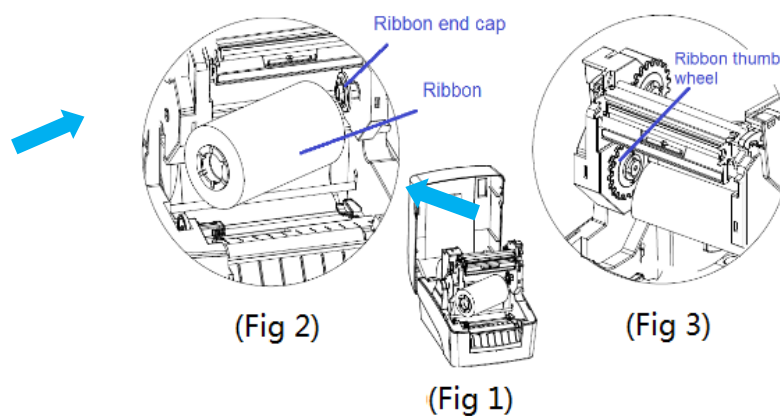

Figure 2.3.1
A) For the ribbon shaft with an inner diameter 12.7mm (1/2 inch), the operation method is as shown in Figure 2.3.1 (please pay attention to the installation direction). Firstly, rotate the ribbon holder to the position shown in Fig.1, then insert the ribbon into the ribbon end cap in the direction shown in Fig.2 and insert the other end of ribbon into the ribbon thumb wheel, and then pull the ribbon outward slightly until you feel an elastic retraction force which indicates that the installation of ribbon on releasing shaft is complete (see Figure 2.3.1);